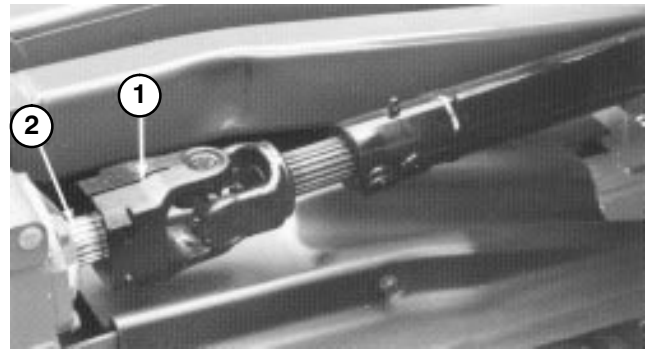

Figure 16
5. Remove socket head screws securing drive shaft yoke gear box input shaft. Slide yoke off shaft (Fig. 16).